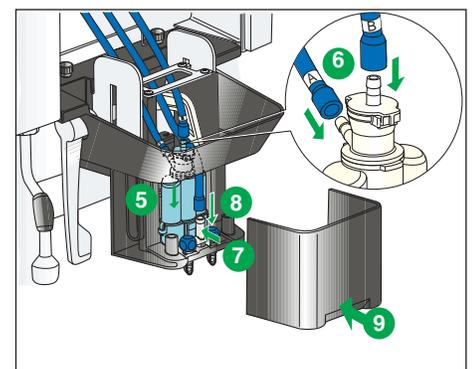

Fig. 6
- 5 Reinstall the cappuccino maker nozzle. (Fig. 6)
- 6 Reconnect tubes A and B to the cappuccino nozzle. (Fig. 6)
- 7 Reposition the flow divider and lock it back in place. (Fig. 6)
- 8 Reconnect the coffee tube to the flow divider. (Fig. 6)
- 9 Reinstall the nozzle cover. (Fig. 6)